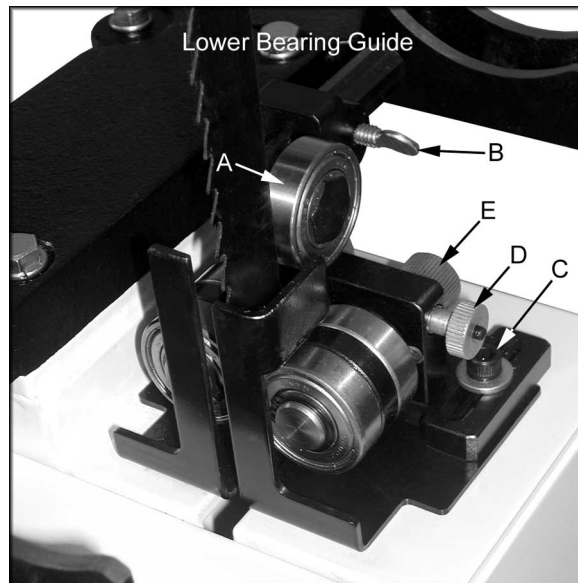

Figure 4
2. Adjust the back-up bearing (A, Figure 4) so that it is 0.003" away from the back of the blade, about the thickness of a piece of paper. To make this adjustment loosen thumb screw (B, Figure 4) and slide the bearing and bearing post into position. Tighten thumb screw (B, Figure 4).
3. Loosen the two socket head cap screws (C, Figure 4) and slide the bearing assembly until the bearing guides rest just behind the gullet of the blade teeth. You may need to readjust the back-up bearing. Tighten socket head cap screws.
4. Loosen the thumb screw (D, Figure 4) and turn adjusting screw (E, Figure 4) clockwise or counter-clockwise until the bearing is 0.003" away from the side of the blade, about the thickness of a piece of paper.
6. Tighten thumb screw (D, Figure 4). Check to make sure the adjustments have not changed and the bearing guides do not pinch the blade.